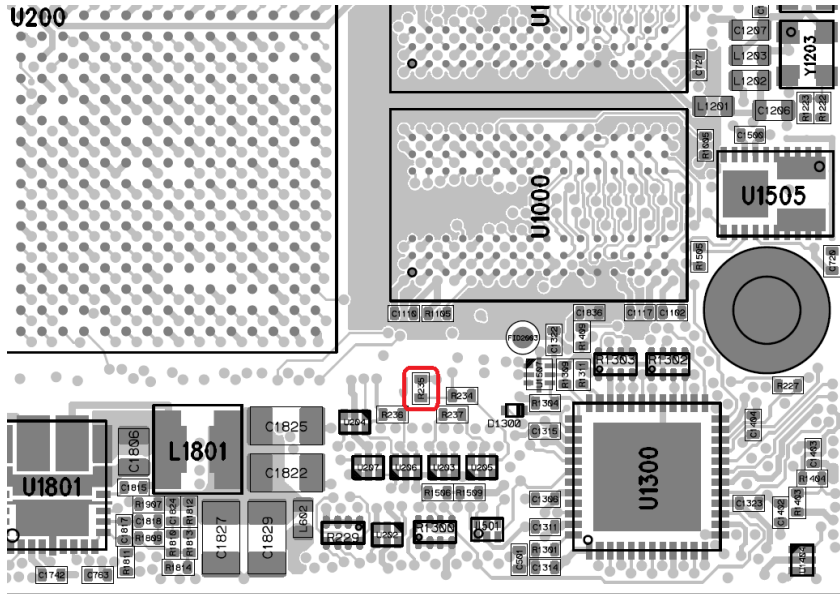

Figure 17: JTAG Boot Mode Resistor - Assembly Drawing Top View (lower right part) for Revision 4 Modules
- Short-circuit R235 (see Figure 17) while powering-up the module (in order to sample the MPSoC boot selection pins correctly for JTAG boot mode)